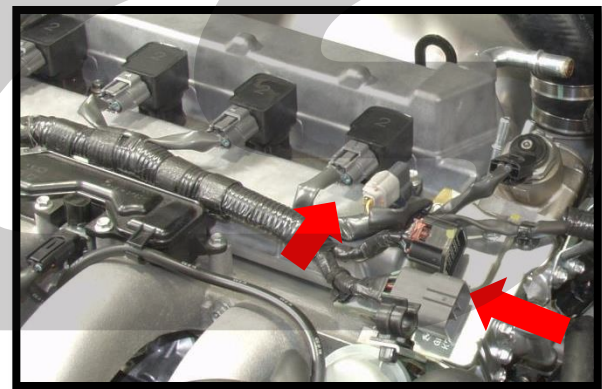

Figure 7j
- n) Re-connect the coil, cam sensors, and main wiring harness plugs (red arrows in Figure 7j).